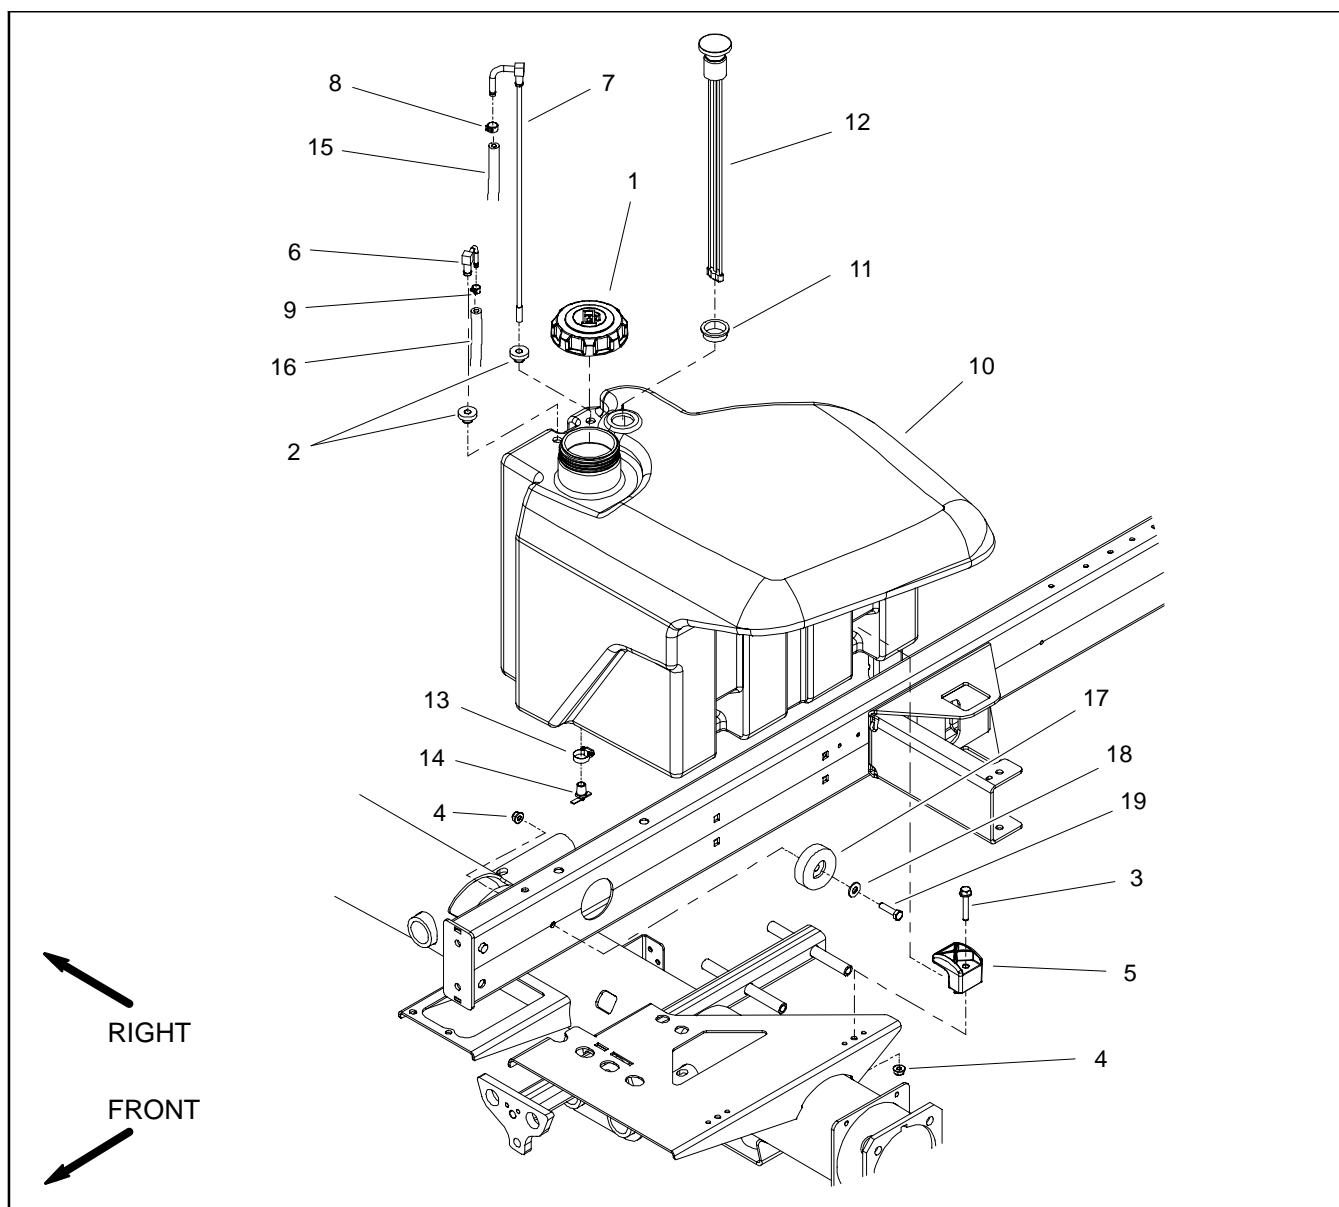

Figure 2
Fuel Tank Removal (Fig. 2)
4. Loosen hose clamps and disconnect fuel hoses from suction (item 7) and return (item 6) fittings on the top of the fuel tank.
5. Remove fuel tank using Figure 2 as a guide.
Fuel Tank Installation (Fig. 2)
1. Install fuel tank to frame using Figure 2 as a guide.
2. Using labels placed during fuel tank removal, correctly connect fuel hoses to suction (item 7) and return (item 6) fittings on the top of the fuel tank. Secure fuel hoses with hose clamps.